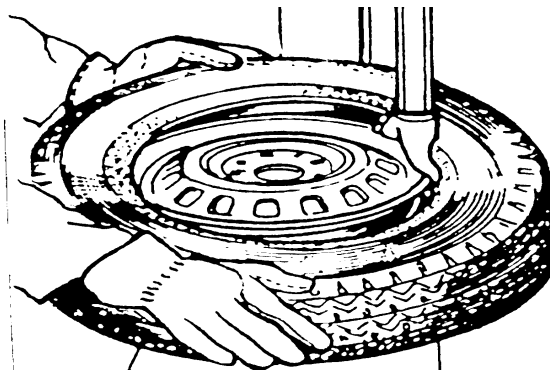

Fig.7
- 5) Move the tire so that the bead passes below the front section of the mounting head and is brought up against the edge of the rear section of the mounting head. (Fig.7)